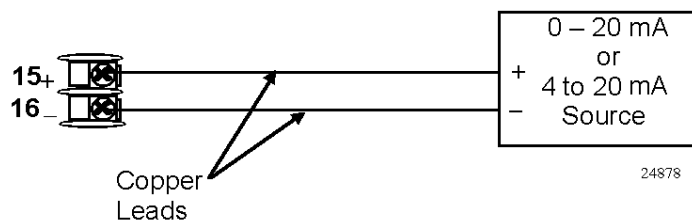

Figure 1-7 Wiring Connections for 4 to 20 mA Input – Input 2
- Use the copper leads and connect the calibrator to the rear terminals of Input #2 (see Figure 1-7).